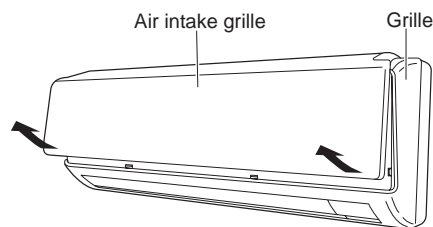

Fig. 9a
- (1) Grasp both ends of the air intake grille, and remove it by opening towards the front and pulling towards you. (Fig. 9a)